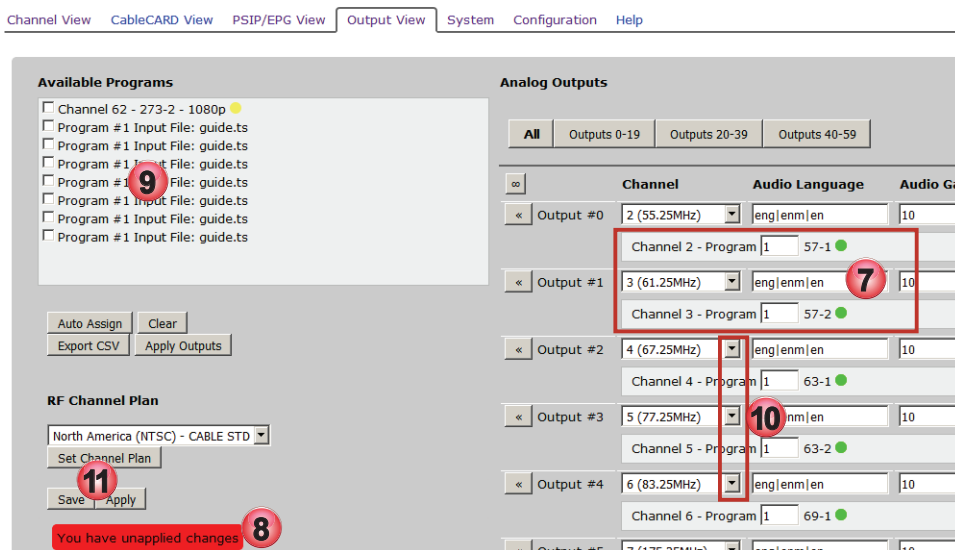

Figure 6-4: Programs Assigned
7. All available programs in the list are assigned to analog channels in the order they were listed, Figure 6-4. If there was a **guide.ts** file created earlier it will not be assigned automatically.